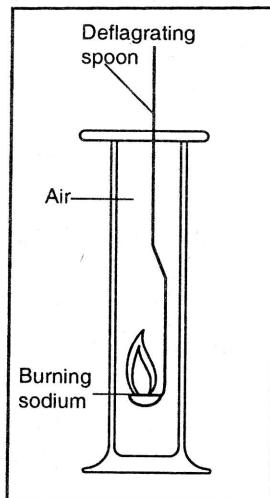

Fig. 4.12: Burning metals in oxygen
- (i) Warm a piece of sodium or a deflagrating spoon until it begins to burn. Lower it into a gas jar of air as shown in figure 4.12. Record your observations.